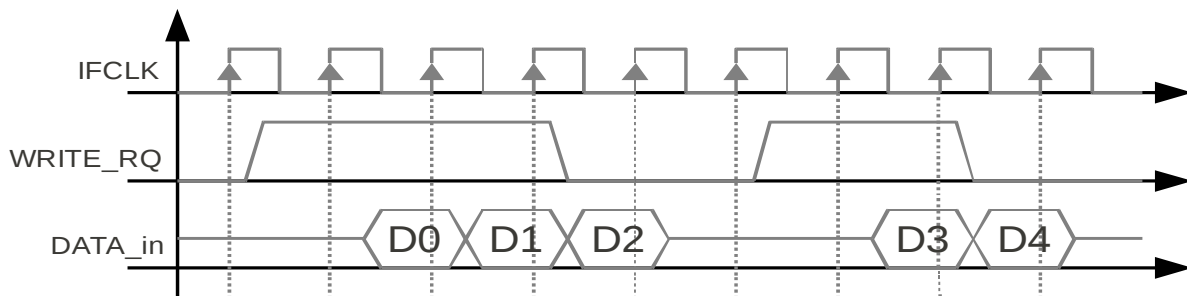

Figure 8: Writing to a pipe
The host (PC) initiates a write event by asserting the `WRITE_RQ` signal (for write required) on the addressed pipe. The FPGA user application must start providing the data on the `DATA_in` bus on the following clock edge. Once the data has been provided the pipe releases the `WRITE_RQ` signal. If the application is providing more data than the FIFO can hold (2048 bytes) the pipe will de-assert the `WRITE_RQ` signal. When this signal is de-asserted the application must stop providing data until the signal is re-asserted. Figure 8 shows an example of a writing to a pipe and pausing while the `WRITE` signal is de-asserted.